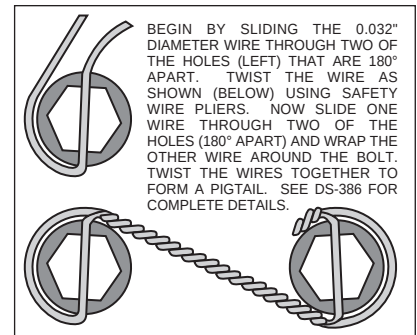

Figure 3. Safety Wire Diagram
- Install the o-ring (19) on the dust cap (20), and screw dust cap assembly onto the hub (9). Friction created by the o-ring (19) on the dust cap (20) keeps it from unscrewing.
- With the larger I.D. side of the rotor (12) facing away from the hat (13), bolt rotor (12) to hat (13) through the backside of the rotor using washers (14) and bolts (15). Using an alternating sequence, apply red *Loctite*® 271 to the threads and torque bolts to 155 in-lb. For an added measure of security, the bolts may be safety wired using standard 0.032 inch diameter stainless steel safety wire as shown in Figure 3. Please refer to Wilwood's data sheet DS-386 (available at www.wilwood.com/Pdf/DataSheets/ds386.pdf) for complete safety wire installation instructions.
- Slide the rotor/hat assembly over the studs (8) in the hub (9) taking care to align the small countersunk holes in the hat (13) with the small threaded holes in the hub (9). Install three flat head socket head screws (16) through the small holes in the hat (13) and torque to 85 in-lb.